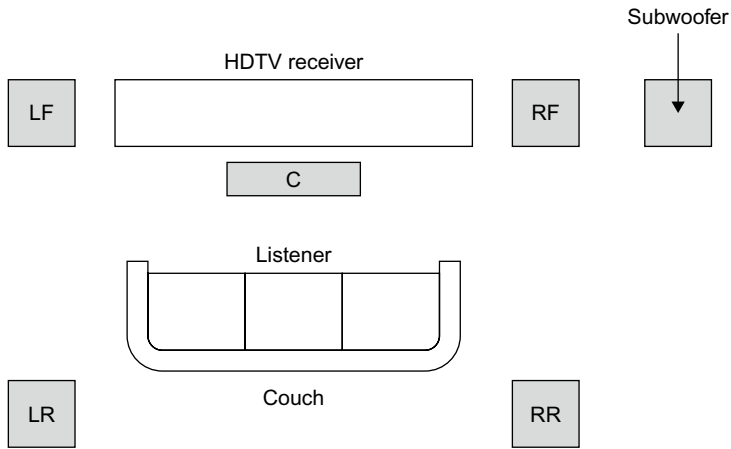

FIGURE 10.9 How 5.1 surround sound system is set up.
New audio systems offer surround sound. These systems feature six, seven, or eight speakers. The idea is to totally envelop the listener with sound as it might be heard in a concert hall or theater. There are speakers in front and at the rear. The first surround-sound implementations were analog but today most surround sound is fully digital. The most common surround-sound method is Dolby Digital 5.1, which uses five speakers and a subwoofer as shown in Figure 10.9. These are left front (LF), right front (RF), center (C), left rear (LR), and right rear (RR). Then there is one subwoofer. The woofer can be positioned